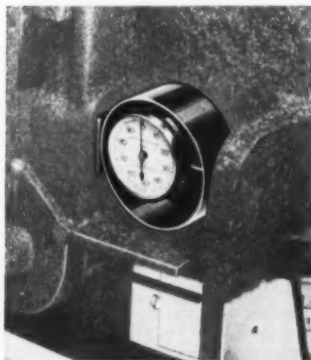

Fig. 5 . . . Master proving ring can be used to check calibration of strength and deformation testing equipment.
11. Use a master proving ring (Fig. 5) to check calibration of strength machines. This may be borrowed from sand strength machine manufacturer without charge.